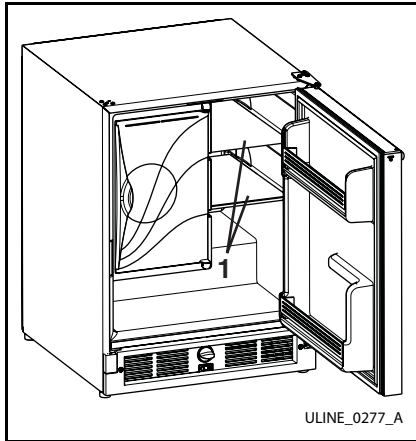

Figure 25
2. Grasp the shelf edge in the center (**Figure 25, 1**) and slide the shelf from the unit.